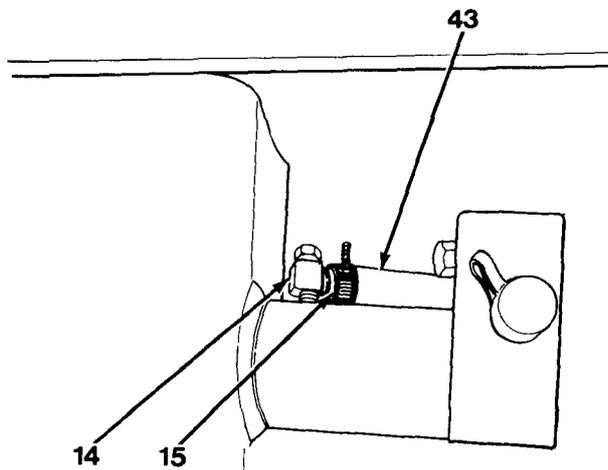
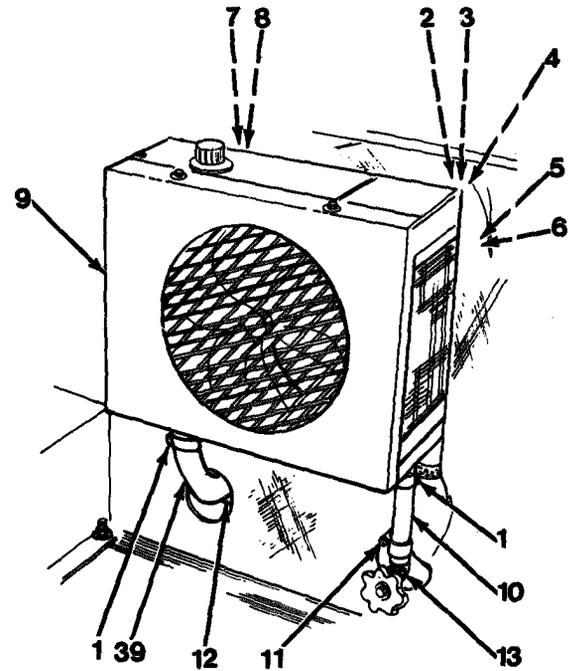

Figure 17-2
Figure 17-1
10. Install clamp (15) on hose (43, Figure 17-2).
11. Install 90-degree elbow (14).
12. Secure hose (43) to 90-degree elbow (14) with clamp (15).
13. Install valve (13, Figure 17-1).
14. Install grommet (12).
15. Install clamp (11) on hose (10).
16. Secure hose (10) to valve (13) with clamp (11).
17. Install heater assembly (9), three lockwashers (8) and nuts (7).
18. Connect wire assembly (6) to wire assembly (5).
19. Install wire assembly (4), lockwasher (3) and nut (2).
20. Install two clamps (1), one on hose (39) and one on hose (10).
21. Connect hoses (39) and (10) to heater assembly (9) and secure with clamps (1).